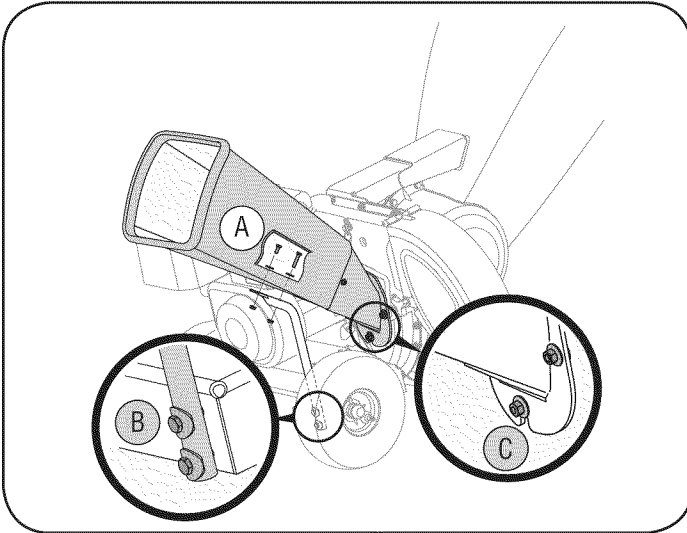

Figure 7
- A. Align the holes in the chute with the holes in the top of the brace and attach brace to chipper chute with hardware previously removed. The flat washers should be placed under the bolt heads and against the inside surface of the plastic chipper chute. Tighten securely. See Figure 7.